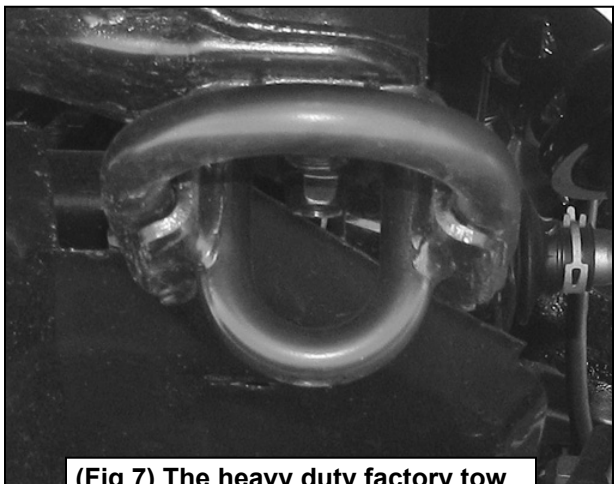

Fig 6
7. From under the front of the vehicle, remove the (2) factory tow hooks and set aside, **(Figures 6 & 7)**. Select the passenger side Frame Mounting Bracket, **(Figure 8A)**.